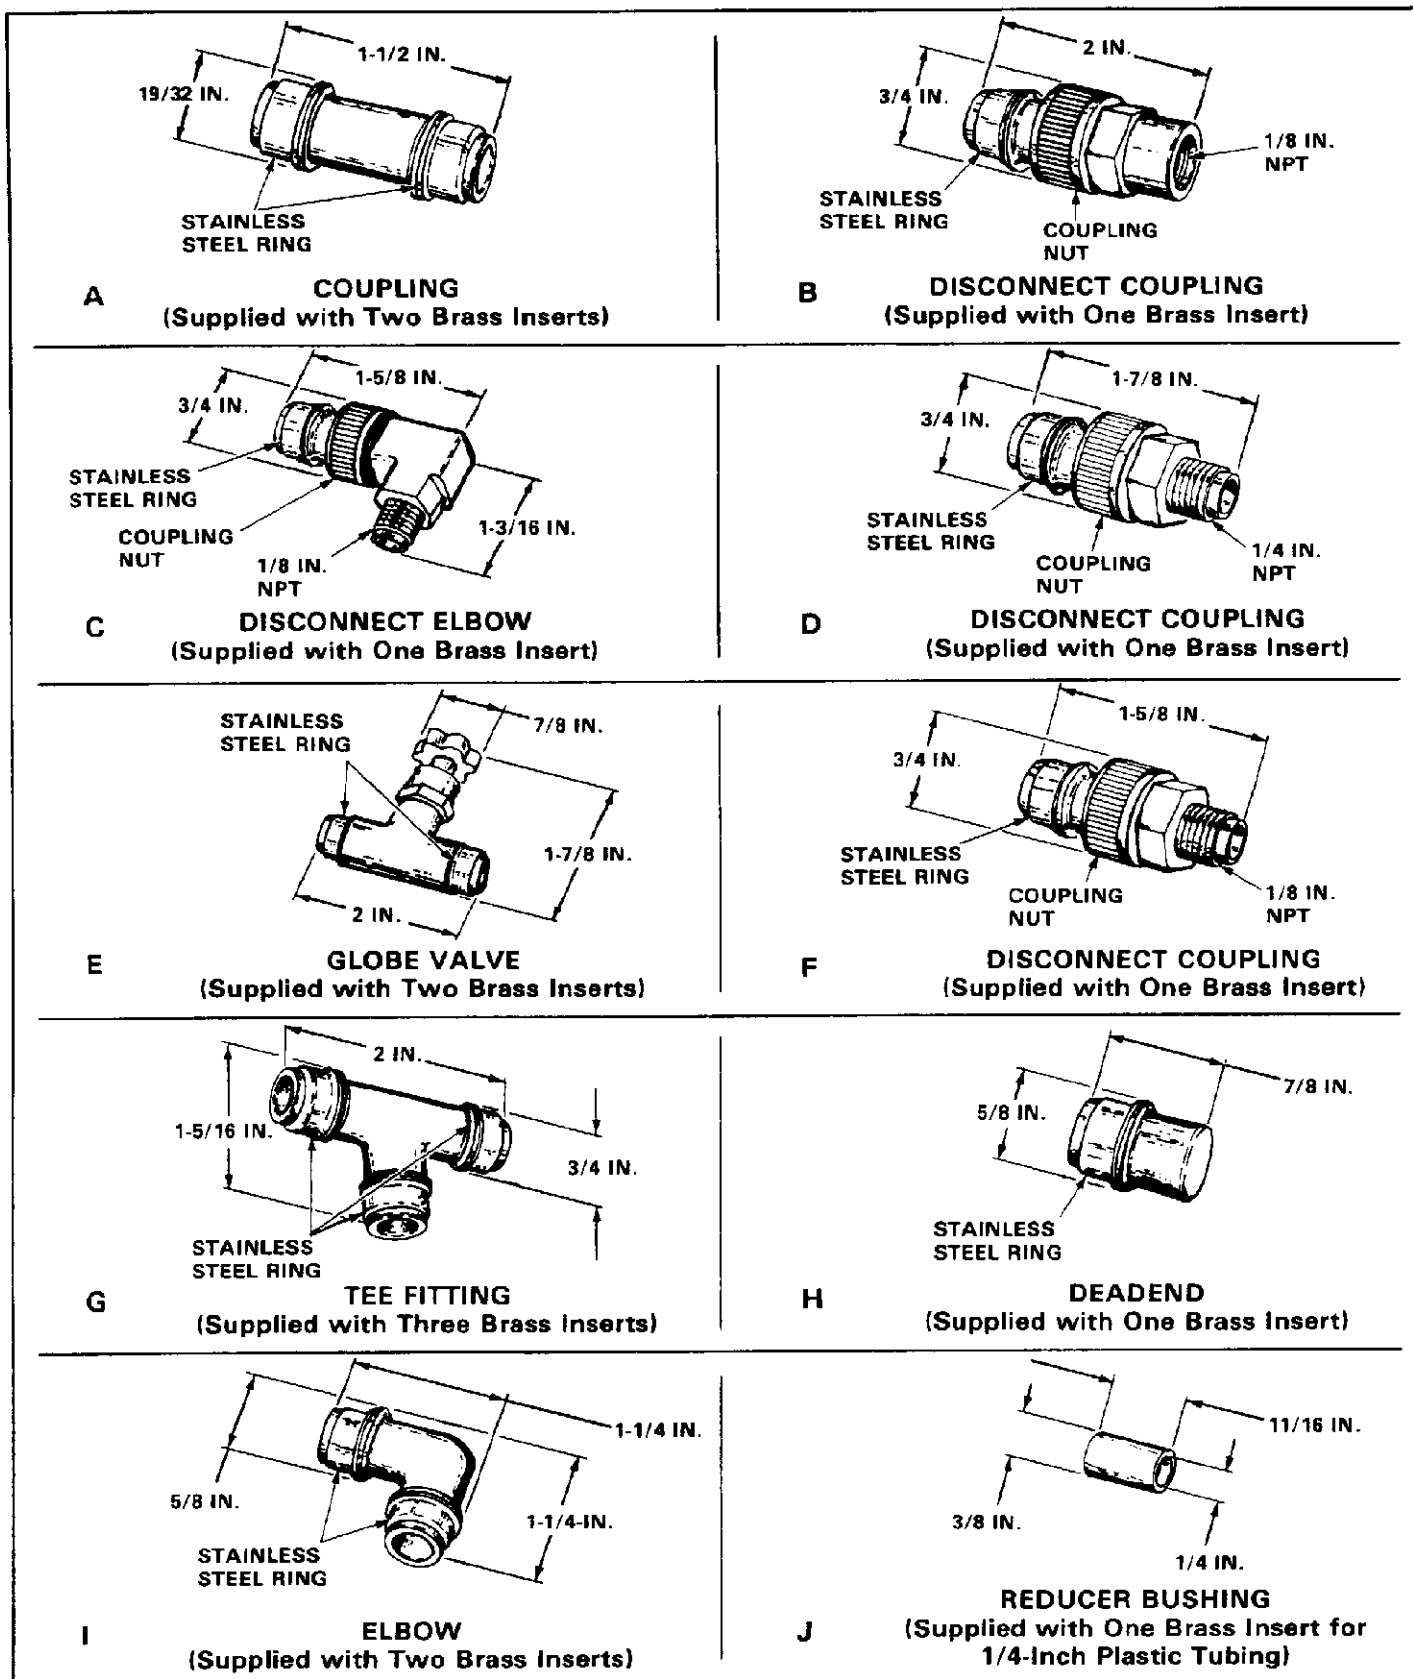

Fig. 1—Plastic Pipe Fittings for 3/8-In. Tubing
2.01 Pipe fittings that are crimped to 3/8-inch tubing are shown in Figure 1 and listed by part number in Table A. In addition, available fitting kits and tools required for assembly are also listed in Table A.
2.02 Nine different fittings and a reducer bushing are available for use on 3/8-inch plastic tubing, as shown in Figure 1. Each fitting consists of a plastic molding with one or more pre-assembled stainless steel rings required to crimp the fitting to the 3/8-inch tubing. Brass inserts are supplied with each fitting for use as stiffeners in the ends of the tubing.
2.03 Any of the plastic pipe fittings shown in Figure 1 can also be used with 1/4-inch tubing. This is accomplished simply by placing the reducer bushing (J, Fig. 1) into the appropriate crimp opening of the fitting. See Paragraph 3 for PREPARATION AND ASSEMBLY.
2.04 The plastic pipe fittings available (Fig. 1) are described as follows.
(a) **The Coupling (A, Fig. 1)** is used for joining two ends of 3/8-inch plastic tubing.
(b) **The Disconnect Coupling (B, Fig. 1)** connects 3/8-inch plastic tubing to any 1/8-inch male NPT fitting. The knurled, captive nut on this coupling permits convenient discon-
(c) **The Disconnect Elbow (C, Fig. 1)** connects 3/8-inch plastic tubing to any 1/8-inch female NPT fitting. It provides a 90-degree elbow, with a knurled, captive nut for convenient disconnection of the coupling before or after assembly.
(d) **The Disconnect Coupling (D, Fig. 1)** connects 3/8-inch plastic tubing to any 1/4-inch female NPT fitting. It also features a knurled, captive nut for convenient disconnection of the coupling before or after assembly.
(e) **The Globe Valve (E, Fig. 1)** connects two ends of 3/8-inch plastic tubing and provides a shut-off capability.
(f) **The Disconnect Coupling (F, Fig. 1)** connects 3/8-inch plastic tubing to any 1/8-inch female NPT fitting. This coupling also features a knurled, captive nut for convenient disconnection of the coupling before or after assembly.
(g) **The Tee Fitting (G, Fig. 1)** is used to tap into a 3/8-inch plastic tubing.
(h) **The Deadend (H, Fig. 1)** is used to seal a section of 3/8-inch plastic tubing.
(i) **The Elbow (I, Fig. 1)** connects two ends of 3/8-inch plastic tubing through a 90-degree elbow.
(j) **The Reducer Bushing (J, Fig. 1)** is used in the crimp opening of any of the fittings listed in Figure 1 to permit the crimping of 1/4-inch plastic tubing. The Reducer Bushing can also be used to adapt the exit ports of a Manifold Assembly to 1/4-inch plastic tubing. See AMP Instruction Sheet IS 2707.
3.01 The plastic pipe fittings that have both a crimp connection and a threaded connection (B, C, D, and F, Fig. 1) can be assembled either connected or disconnected. Assemble the threaded connection to another fitting, valve, etc., as follows:
3.04 The Reducer Bushing (J, Fig. 1) can be used in any of the plastic pipe fittings to connect 1/4-inch plastic tubing. Prepare tubing and plastic pipe fitting as follows:
Coupling (A, Fig. 1)	561302-1
Disconnect Coupling (with 1/8-in. female NPT) (B, Fig. 1)	561309-1
Disconnect Elbow (with 1/8-in. male NPT) (C, Fig. 1)	561314-1
Disconnect Coupling (with 1/4-in. male NPT) (D, Fig. 1)	561312-1
Globe Valve (E, Fig. 1)	561306-1
Disconnect Coupling (with 1/8-in. male NPT) (F, Fig. 1)	561310-1
Tee Fitting (G, Fig. 1)	561304-1
Deadend (H, Fig. 1)	561308-1
Elbow (I, Fig. 1)	561318-1
Reducer Bushing (to adapt 3/8-in. fitting to 1/4-in. tubing) (J, Fig. 1)	561335-1